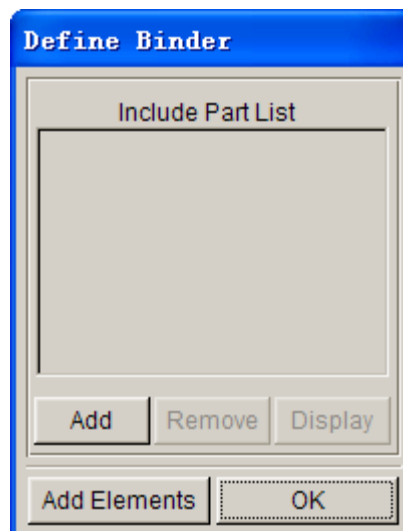

Figure 51: Define binder dialog box
2. Next, click on the **Add** button in the **Define Binder** dialog box shown in Figure 51.